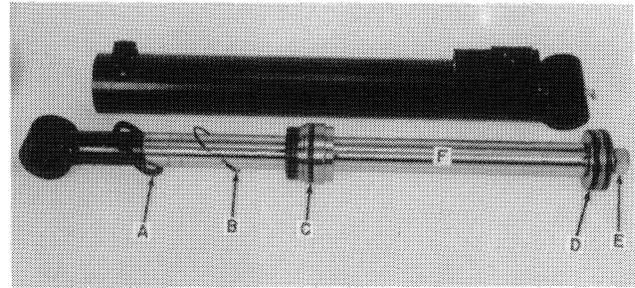

FIGURE 2-12
5. Pull the piston rod assembly from the cylinder barrel as shown in Figure 2-12.
6. Figure 2-12 shows retaining nut, A; retaining ring, B; head, C; piston, D; nut, E; piston rod, F; and cylinder barrel.
7. Reassemble the parts on the piston shaft as shown in Figure 2-12, using Loctite hydraulic sealant on the piston bore. Put the recessed side of the piston toward nut, E. Tighten the nut to 320 ft. lbs. (434 N·m) torque.
8. Reassemble the piston assembly in the cylinder barrel. Be sure the retaining ring, B, Figure 2-12, is fully seated. Tighten the retaining nut to 25 ft. lbs. (34 N·m) torque.